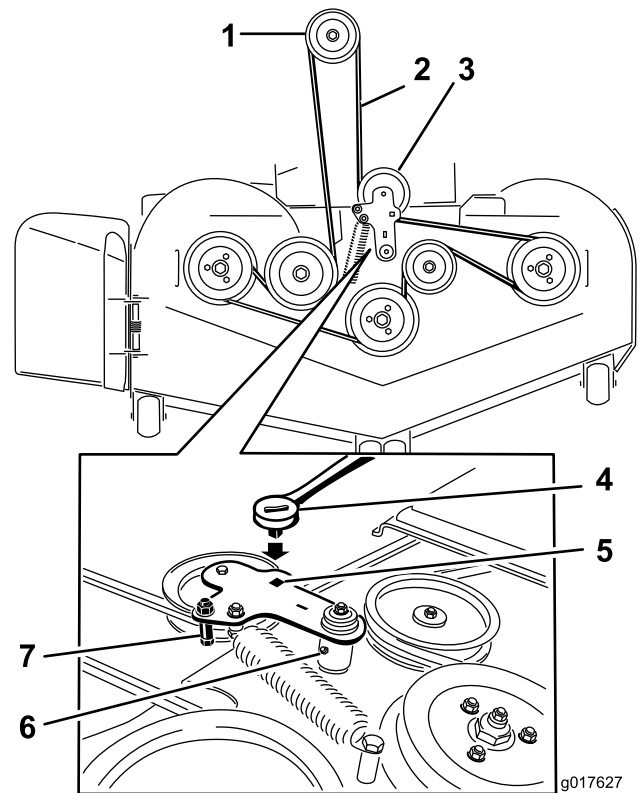

Figure 61
5. Use a ratchet in the square hole in the idler arm to remove tension on the idler spring (Figure 61).
7. Remove the belt guide on the spring-loaded idler arm (Figure 61).
9. Install the new belt around the mower pulleys and the clutch pulley under the engine (Figure 61).
10. Install the belt guide on the idler arm (Figure 61).
11. Using the ratchet in the square hole, install the idler spring (Figure 61).